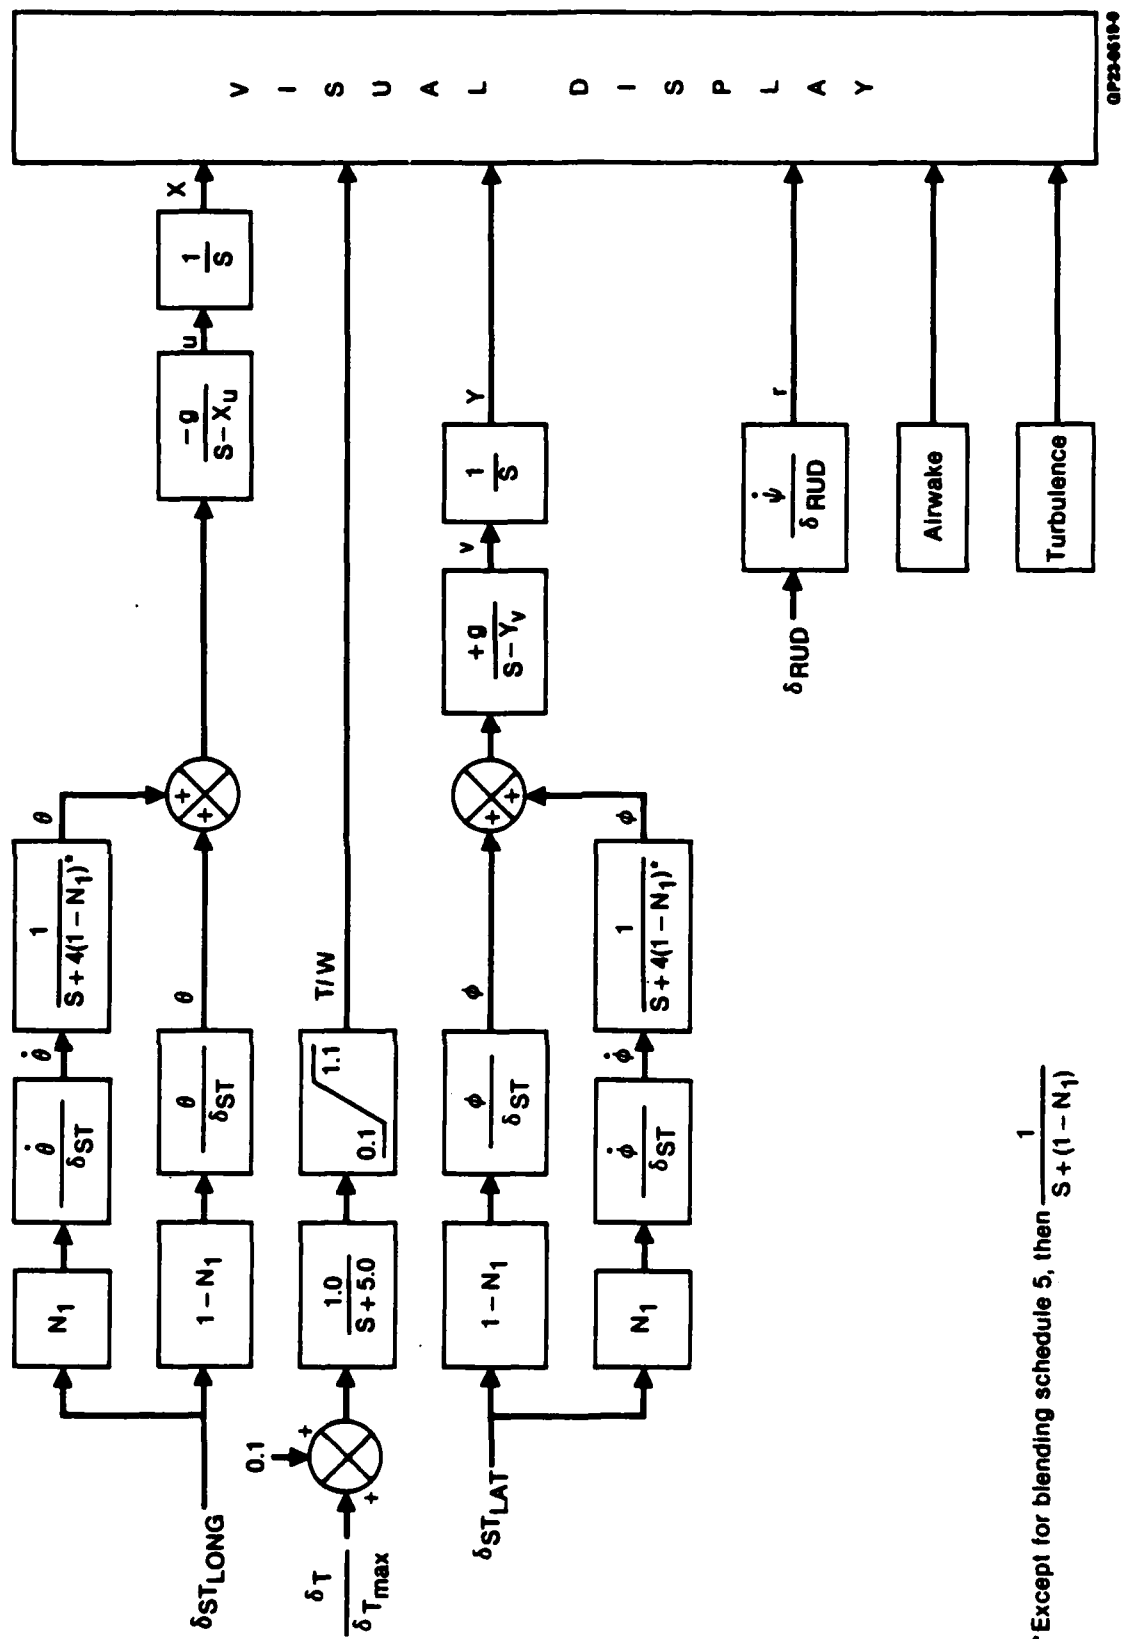

Figure 7. Generic Block Diagram
3. EXPERIMENT DESIGN - A generic block diagram, Figure 7, was developed which allowed easy manipulation of variables.